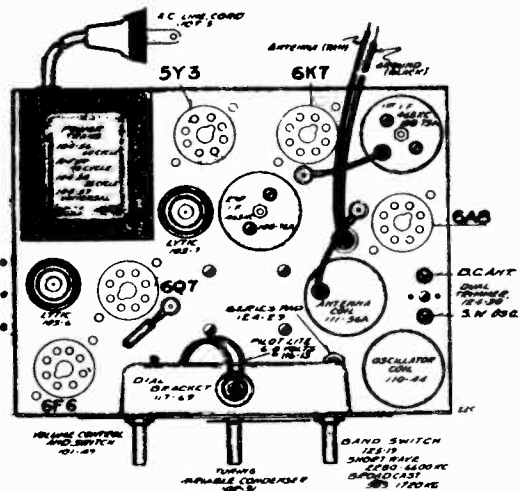

FIG. 1—TOP VIEW
- (a) With external oscillator set at 1720 kilocycles, adjust oscillator trimmer to resonance. This adjustment is on the top of rear section of variable gang condenser. (See Fig. 1).
These I.F. transformers have two adjustments, both of which are accessible from the top of chassis (see Fig. 1).